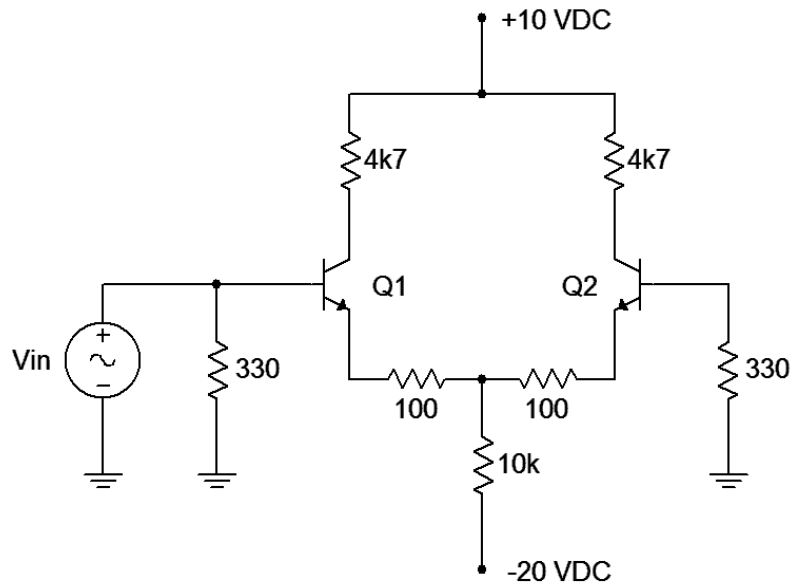
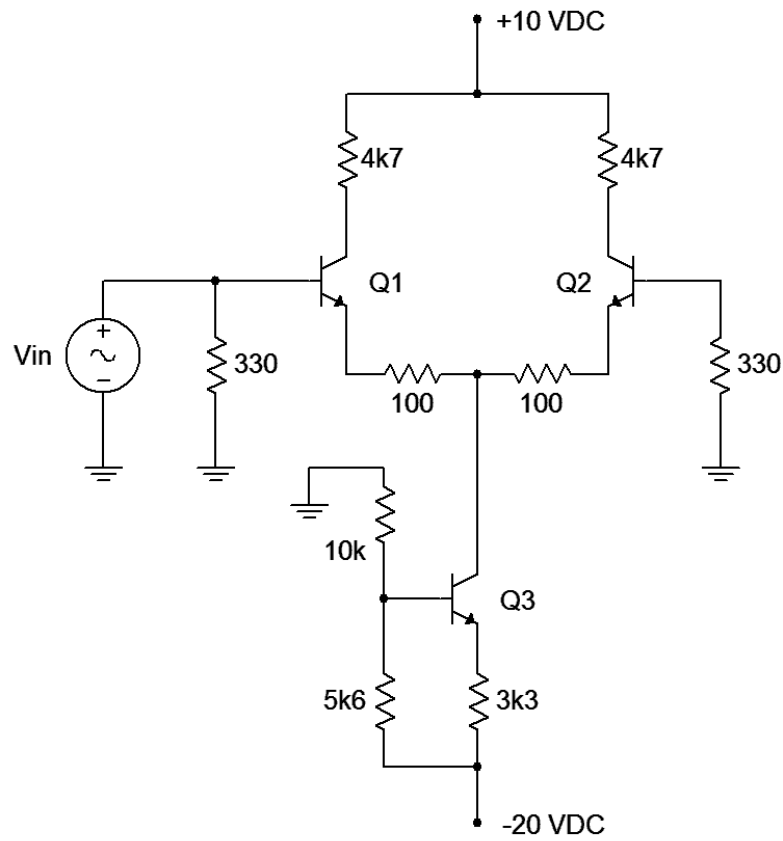

Figure 2
Figure 3
5. Calculate the differential voltage gain and collector voltages for the amplifier of Figure 2 using an input of 20 millivolts, and record them in Table 2.
6. Assemble the circuit of Figure 2.
12. Assemble the circuit of Figure 3. This circuit uses an improved tail current source that exhibits much higher internal impedance than the circuit of Figure 2. This should yield a decrease in common mode gain which, in turn, should yield an improved CMRR. Note that the new circuit sets up virtually the
14. Continuing with the amplifier of Figure 3, turn the signal down to 0. Estimate and then measure the results for each individual error presented in Table 5.
15. Build the amplifier of Figure 2 in Multisim and run a Transient Analysis echoing steps 5 through 8. Compare the results to the data found in Table 2.